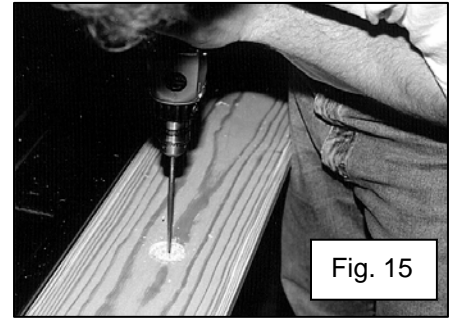

Fig. 15
22. From the top surface, drill through the 1/8" pilot holes with a 1/2" drill bit to complete the bed-to-frame holes. See figure 15.